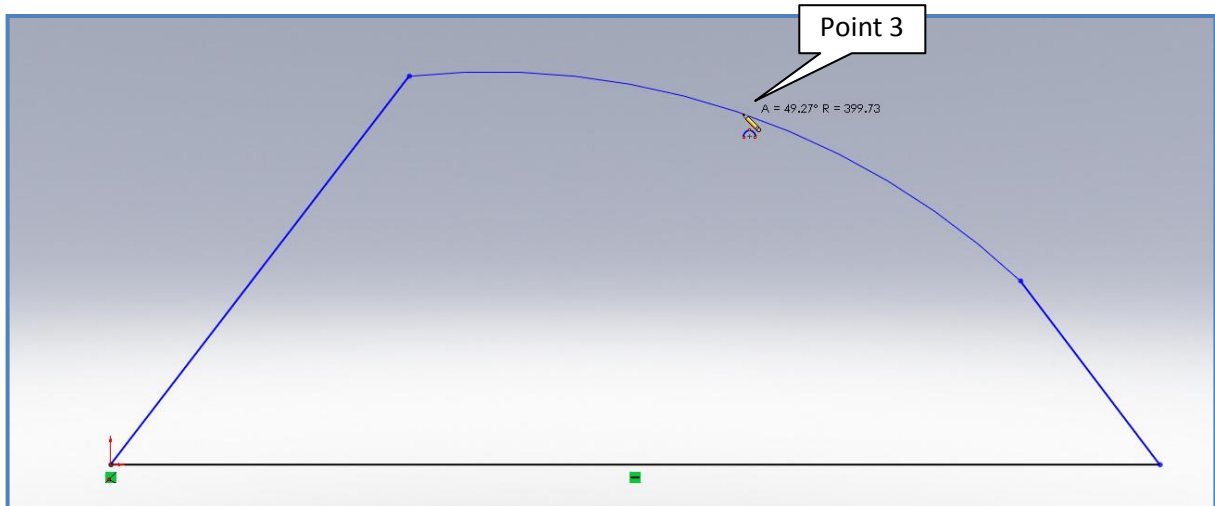

Figure 6
- Choose point 3 in the approximate position indicated in figure 6.